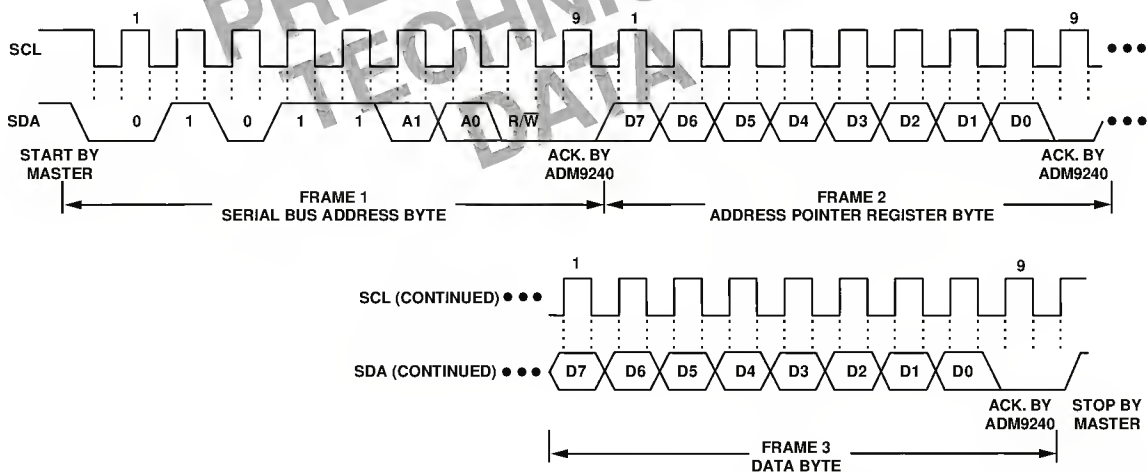

Figure 2a. Writing a Register Address to the Address Pointer Register, then Writing Data to the Selected Register
This is illustrated in figure 2a. The device address is sent over the bus followed by R/W set to 0. This is followed by two data bytes. The first data byte is the address of the internal data register to be written to, which is stored in the Address Pointer Register. The second data byte is the data to be written to the internal data register.
2. In figures 2a to 2c, the serial bus address is shown as the default value 01011(A1)(A0), where A1 and A0 are hardwired to either logic 0 or logic 1.